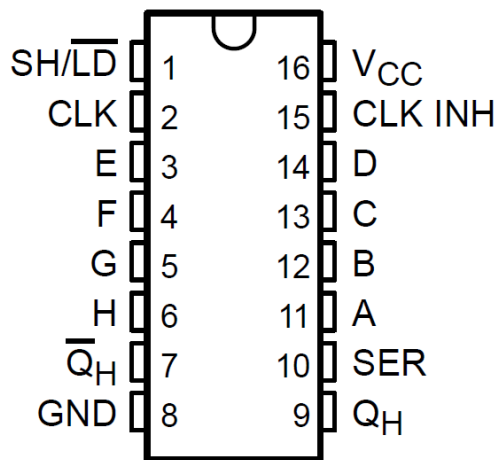

Figure 3: SN74LS165A Pinout Diagram
After configuring the SPI bus to continuously transmit a fixed data byte, we will now store and display this byte using a serial-in, parallel-out shift register. The pinout for the STPIC6D595 is provided in Figure 3. We will not use clear (CLR) or the output enable (G) signals for this lab, so you should connect them to 5V and GND respectively. You should connect the SRCK and SER\_IN pins to the SCK and MOSI pins of the SPI bus. Lastly you should connect the output register latch signal (RCK) to a general I/O pin of your microcontroller. You should connect each drain output to the cathode side of an LED circuit so that you can display the 8-bit output on the LED array. Once connected, you can now modify your SPI code so that it strobes (pulls high then low) the RCK signal after each SPI transfer. This will latch the newly transmitted SPI data into the parallel output registers of the STPIC6D595 chip. Once completed, measure the MOSI signals and RCK signals using the oscilloscope and answer Design Question 2. Modify the constant transmitted data within your code in order to test the functionality of your circuit.